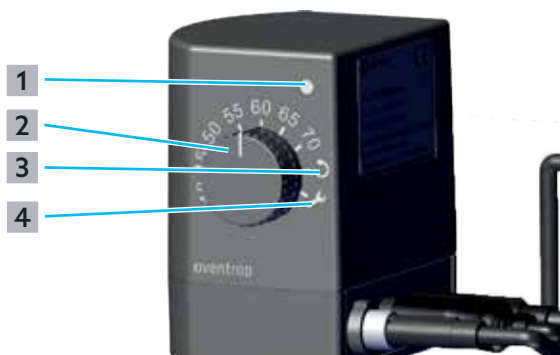

Fig. 18: Status messages and error messages at the actuator
The indicator light ((1) in Fig. 18 on page 26) of the actuator shows status messages and error messages.
If the rotary knob is set to the error reset index ((3) in Fig. 18 on page 26) for longer than 5 seconds, then the displayed error is reset and a calibration run is started. As long as the rotary knob is set to the error reset index, a calibration run of the actuator is started again and again, during which the closing point of the control valve is detected.